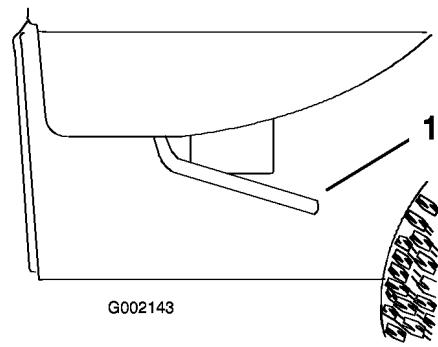

Figure 12
1. Lift the lever on either side of the box and lift the box up (Figure 12).